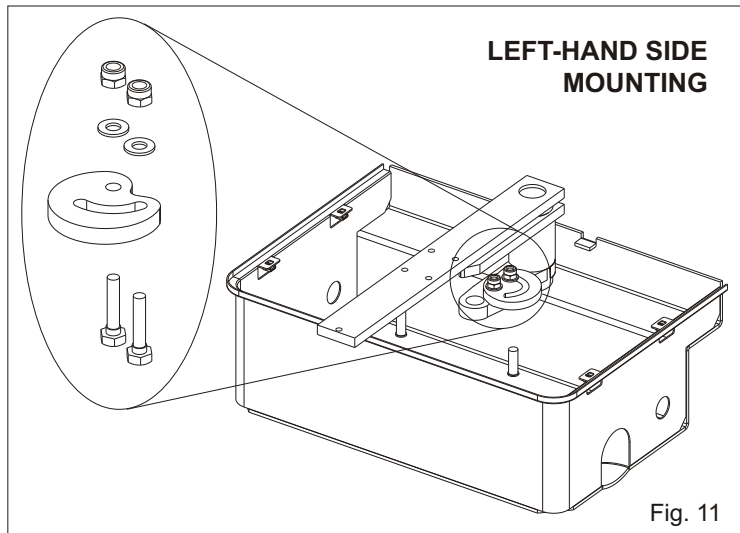
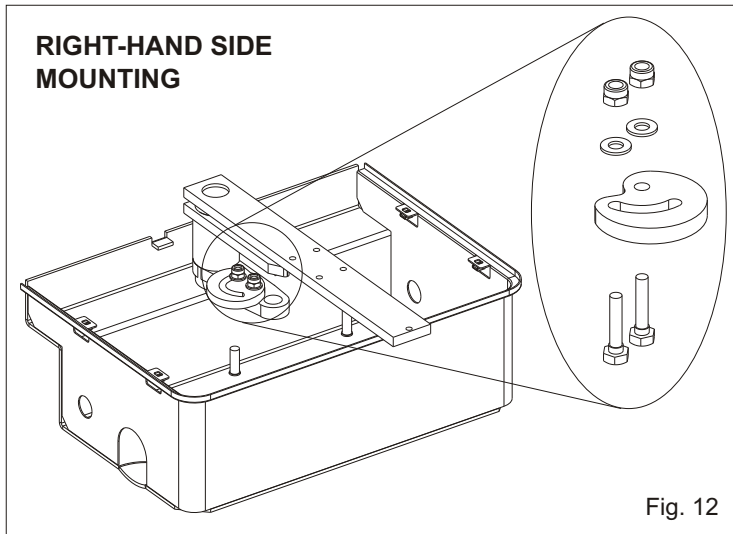

Fig. 11
Fig. 12
2.7. Insert the cam of the limit switch into the handle bar and fix it with the special screws (left-hand side mounting Fig. 11, right-hand side mounting Fig. 12)